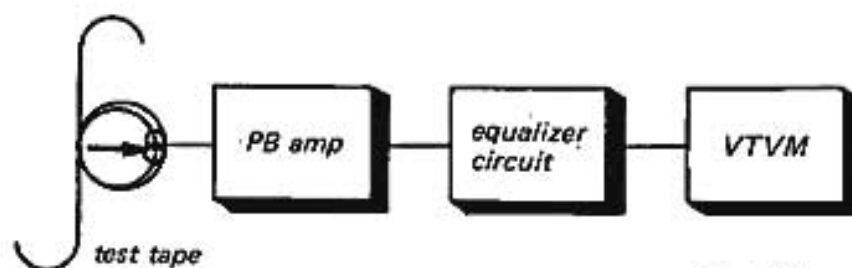

Fig. 8-1
- 2) Play back the tape. Connect the equalizer circuit to LINE OUTs of the channels as shown in Fig. 8-1, and read the output voltages by a VTVM.
- 3) Demagnetize the tape completely by the tape eraser. Play back the tape without signal connecting the equalizer circuit as shown in Fig. 8-1. Read the output voltages.